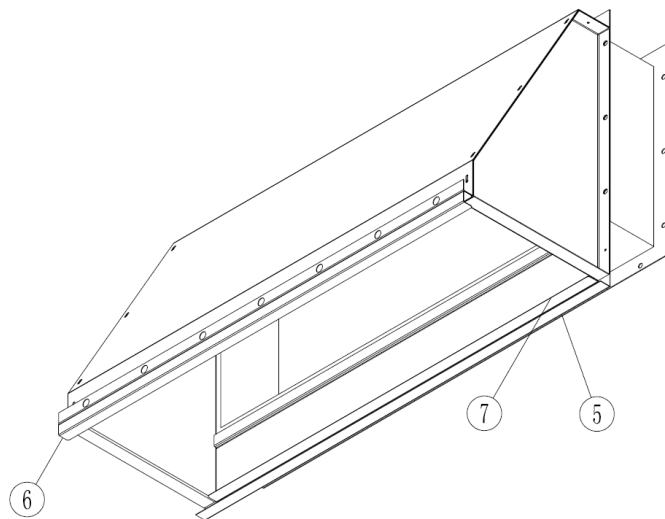

Figure 3.18 Hood Installation 2
- 3) Pre-install filter sliding rail 2(part 7) and part 5, then fix part 5 with damper(or flange),then fix filter sliding rail 1 with top plate(part 4),referring to figure 3.18;